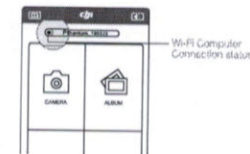

Figure 46
- (4) Run the DJI VISION App on your mobile device. When the Wi-Fi Computer Connection status on the App main menu goes green, the connection is good (Figure 46).